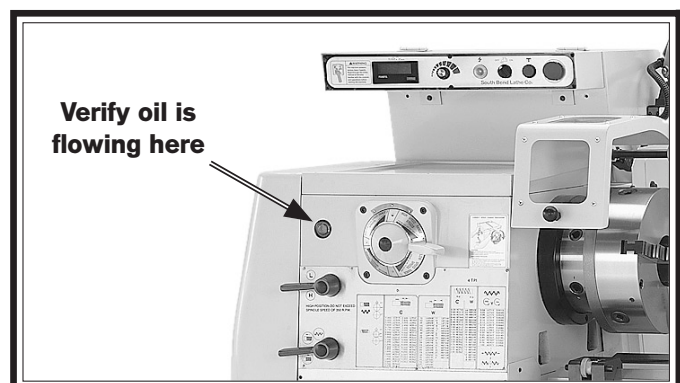

Figure 28. Headstock oil sight glass.
12. Observe the oil pump tube through the sight glass on the headstock (see **Figure 28**). Verify that you see oil flowing.